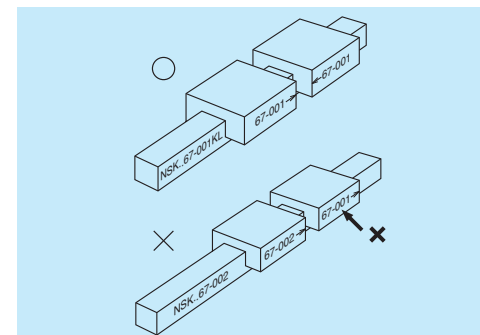

Fig. 10.28
- If slides had to be removed from the rail, confirm their serial numbers and the directions of arrows for re-assembly (Fig. 10.28).